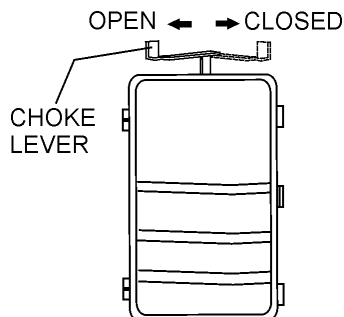

Figure 11. Choke Lever
2. Place the **choke lever** (Figure 11) in the "**CLOSED**" position if starting a **cold** engine.
3. Place the **choke lever** (Figure 11) in the "**OPEN**" position if starting a **warm engine** or the **temperature is warm**.
6. If the engine has started, slowly return the choke lever (Figure 11) to the **"OPEN"** position. If the engine has not started repeat steps 1 through 5.